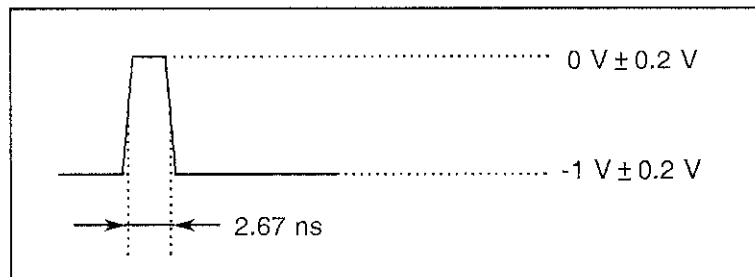

Figure 9-2 Waveform of the PATTERN TRIGGER Output Signal (f = 12000 MHz, 5 ns/div)
- (6) If the waveform on the oscilloscope is a square wave which is similar to the one shown in Figure 9-2, the PATTERN TRIGGER signal is evaluated as normal.